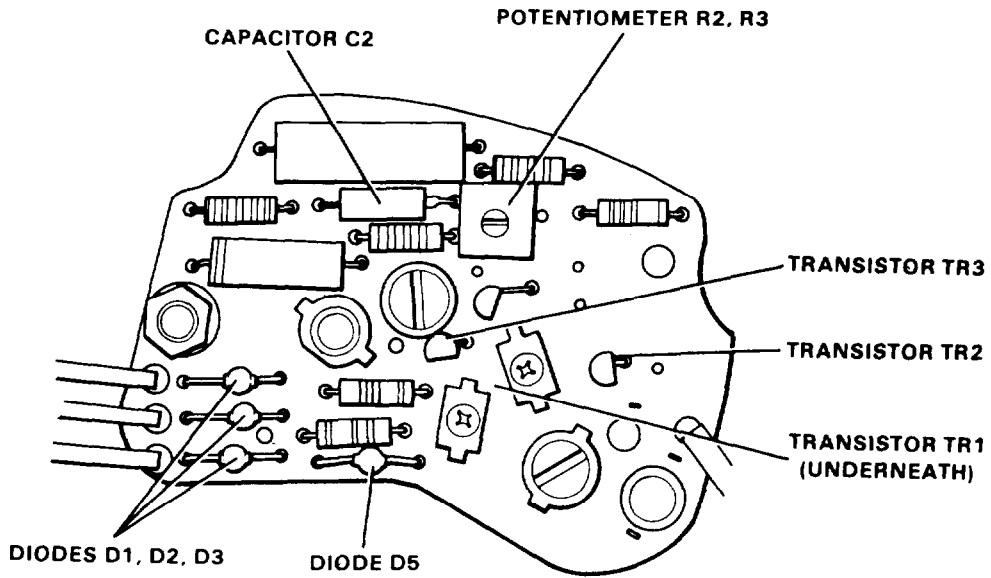

Figure 10D-16. Panel Board Assembly
- 11 . Potentiometer R2-With ohmmeter connected, turn potentiometer slotted screw (see Figure 10D-16 on page 10D-15). Ohmmeter needle should deflect slightly. If no deflection at all, replace R2.